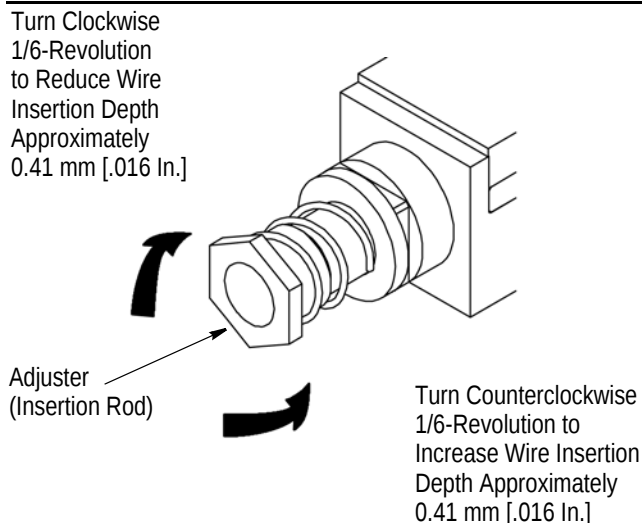

Figure 3
- If the wire is too deep in the contact slot: Remove the head and turn the adjuster CLOCKWISE. Refer to Figure 3. A 1/6-revolution adjustment will reduce the wire insertion depth by approximately 0.41 mm [.016 in.]. Repeat steps 2, 3, and 4 of Paragraph 3.1 until the desired insertion depth is attained.
- If wire is not deep enough in contact slot: Remove the head and turn the adjuster COUNTERCLOCKWISE. Refer to Figure 3. A 1/6-revolution adjustment will increase the wire insertion depth by approximately 0.41 mm [.016 in.]. Repeat Steps 2, 3, and 4 of Paragraph 3.1 until the desired insertion depth is attained.